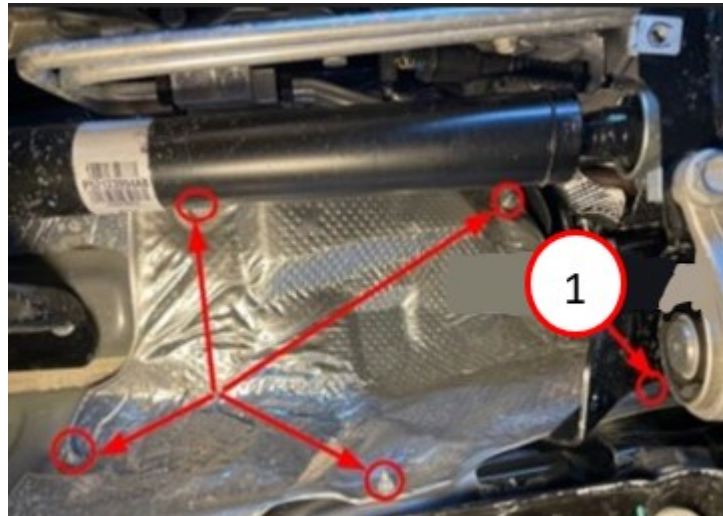

Fig. 4
5. Remove five 11 mm nuts securing the lower heat shield to the underbody. Do not attempt to remove heat shield until the hidden nut is removed as shown in the next step. (Fig. 4)